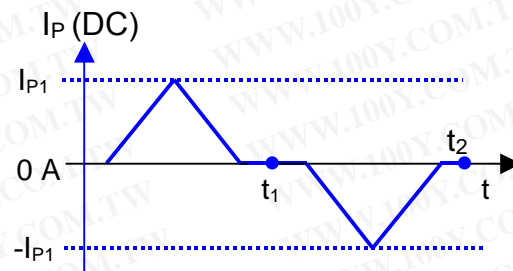

Figure 25: current cycle used to measure magnetic and electrical offset (transducer supplied)
- or in a known magnetization state, like in the current cycle shown in figure 25.
Using the current cycle shown in figure 25, the electrical offset is: